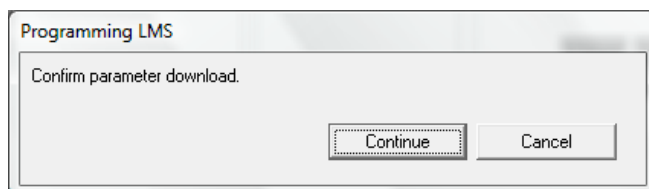

Figure 2. Confirm parameter download.
8. A message box allows you to click on the **Cancel** button to stop the download sequence if you would like to do so. If you want to continue the download sequence, click on the **Continue** button, see Figure 2.